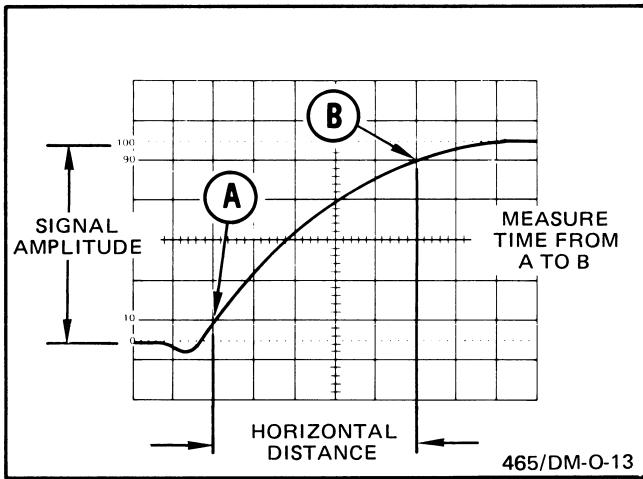

Fig. 2-13. Risetim.
2. Adjust the vertical POSITION control so that the display bottom just touches the 0% graticule line and the display top just touches the 100% graticule line (see Fig. 2-13).
3. Measure the horizontal distance (divisions) between the 10% and 90% points on the waveform (point A to point B, Fig. 2-13).